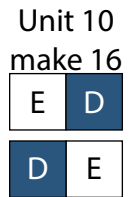

Fig. 18
21. Sew (1) 2" Fabric E square to each the left side of (1) 2" Fabric D square to make the top row. Sew (1) 2" Fabric D square to the left side of (1) 2" Fabric E square to make the bottom row. Sew together the (2) rows lengthwise to make (1) $3\frac{1}{2}$ " Unit 10 square (Fig. 18). Repeat to make (16) Unit 10 squares total.